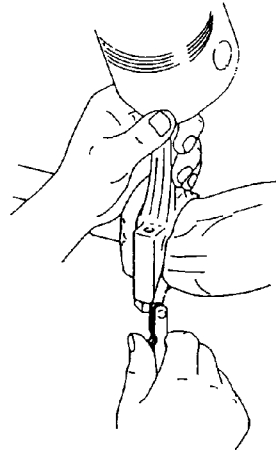

Figure 6-100
1. Using a feeler gauge, measure the connecting rod side clearance as shown (Figure 6-100). See *Connecting Rod* on page 6-20 for the standard limit. If the measurement is out of specification, replace the crankshaft, connecting rod, or both.